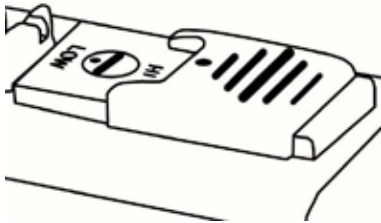

Figure 1-2. HI/LOW Power Output Selector
1.4.1.3 HI/LOW Power Output Selector. The HI/LOW power selector permits reduction of the laser output from HI (operational mission power) to LOW (eye-safe level) for training and force-on-force exercises, and to maximum levels for combat operations. (See Figure 1-2)
1.5.2.2 HI/ LO Power Selector. The HI/LOW power selector permits selection of the laser output to LOW (eye-safe level) for training and force-on-force exercises, by limiting power to the laser diode. Output selection is achieved via a 180° rotation of the HI/LOW power selector with a small slot screwdriver. (See Figure 1-2).